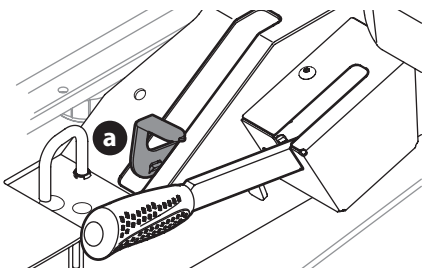

Fig. 40
1. Engage the transmission bypass valves by pulling the bypass lever (a) upward and all the way back (Fig. 40).
2. To release the bypass lever (a), push the lever forward (Fig. 40).